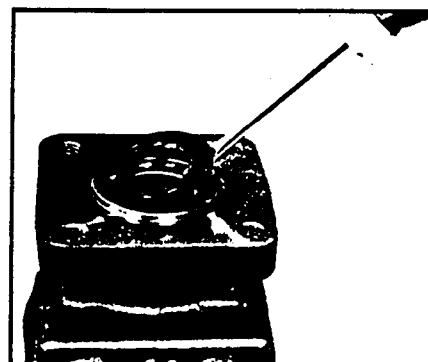

Figure 20
16. Remove housing (15) from vise and place it on a clean flat work surface with wearplate end down. Pry out and discard the dirt and water seal (20) and inner seal (16) using a dull-edged screw driver. Be careful not to gouge or nick other components during the process. SEE FIGURE 20 and 21.